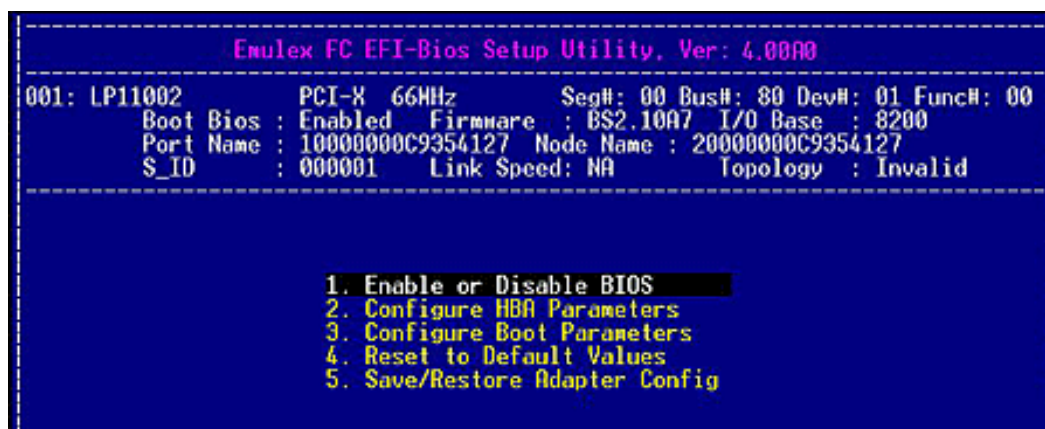
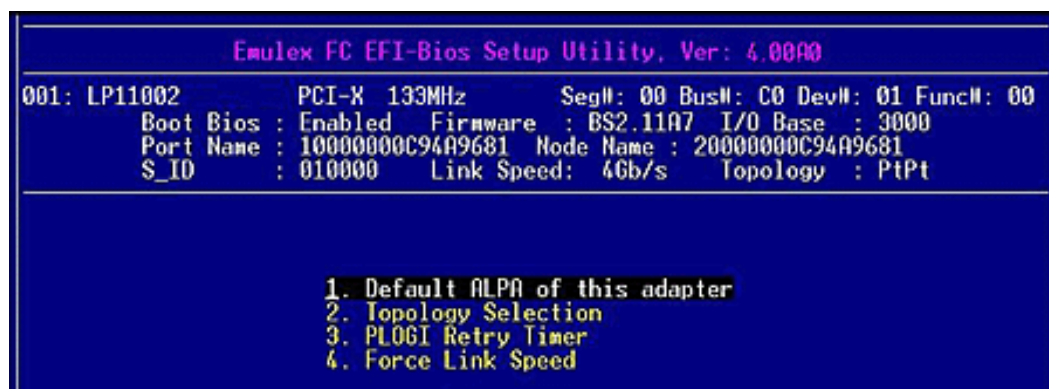

Figure 6-6 EFI – BIOS Setup Utility Menu
Figure 6-9 Adapter Configuration Menu
1. From the Main EFI – Bios Utility menu, select **1. Setup Utility** and press **<Enter>**. The EFI – BIOS Setup Utility menu is displayed (Figure 6-6).
From the EFI – BIOS Setup Utility menu (Figure 6-6) select **2. Configure HBA Parameters** and press <Enter>. The Adapter Configuration (Figure 6-9) is displayed.
From the EFI – BIOS Setup Utility menu (Figure 6-6), select **3. Configure Boot Parameters** and press <Enter>. The menu shown in Figure 6-14 is displayed.